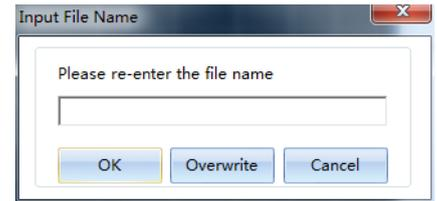

Figure 4.46 S/N Repetition Prompt
- S/N: with S/N as the file name. When the S/N is empty, the file won't be saved. When the saved file already exists, "Re-enter the File Name" window will pop up, as shown in Figure 4.46. The user can rename, overwrite or quit without saving the file.